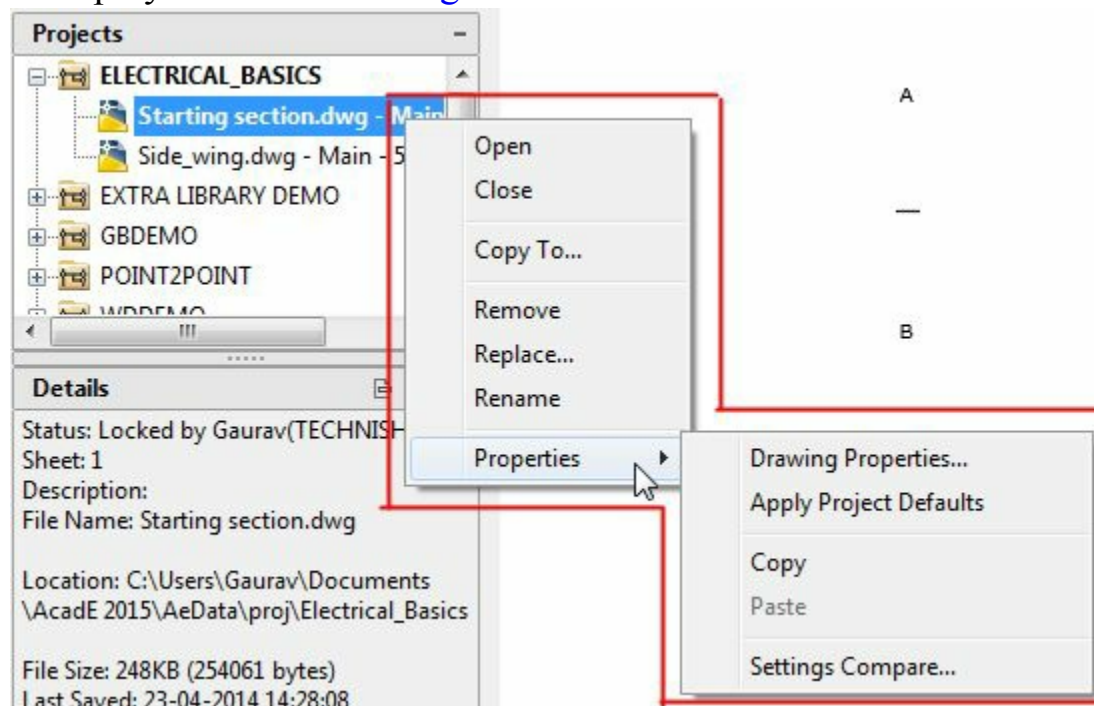

Figure-18. Shortcut menu
- Right-click on the name of current drawing in the **Project Manager**. A shortcut menu will be displayed as shown in Figure-18.